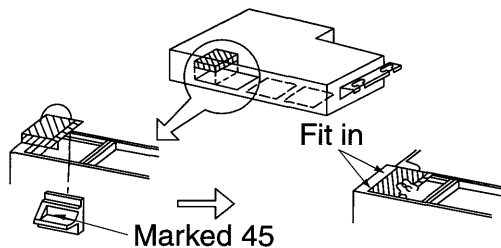

Fig. 19
- Attach to the left side of the 3 position for drain pan opening. (Refer to Fig. 19)